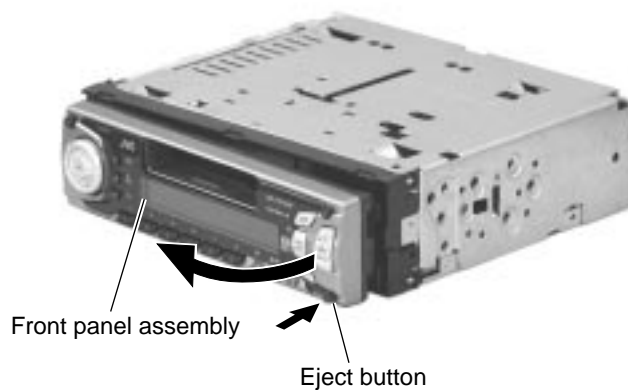

Fig.1
■ Removing the front panel assembly (See Fig.1)
REFERENCE: Prior to performing the following procedures, turn the mode gear on the bottom of the body until the respective part comes to the EJECT position (Refer to Fig.1).
■ Removing the reinforce bracket (See Fig.1 and 2)